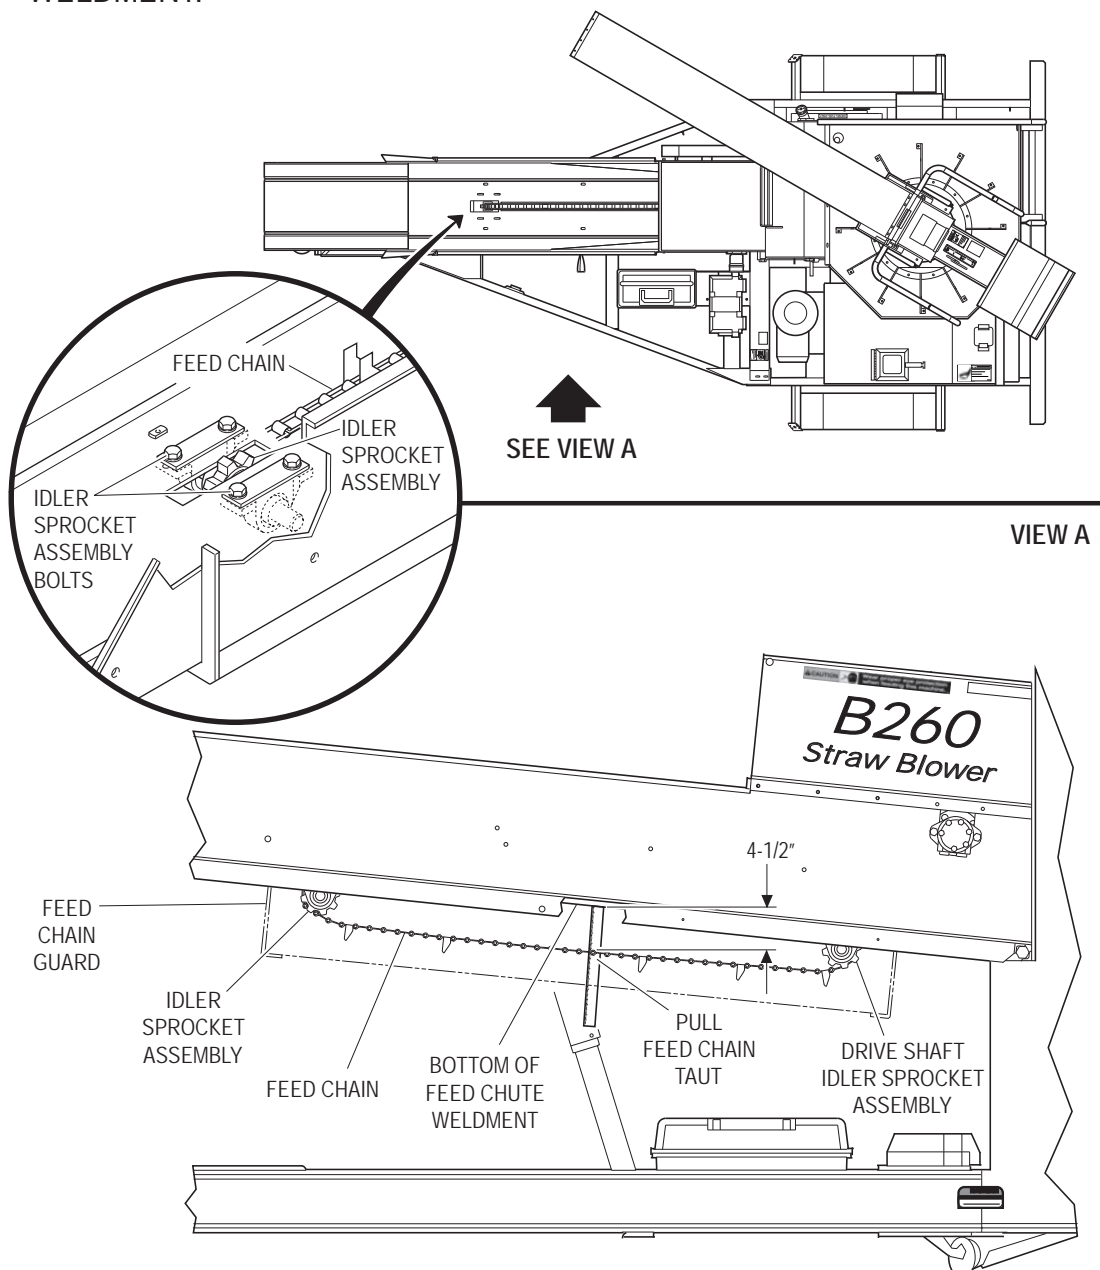

Figure 9 - Adjusting the Feed Chain
1. About halfway between the IDLER SPROCKET ASSEMBLY and the DRIVE SHAFT IDLER ASSEMBLY, pull the FEED CHAIN taut and away from the bottom of the FEED CHUTE WELDMENT. At the point where you have pulled the FEED CHAIN away, measure the distance between the top of the FEED CHAIN and the bottom of the FEED CHUTE WELDMENT. This should measure 4-1/2 in. (11.4 cm). See Figure 9.